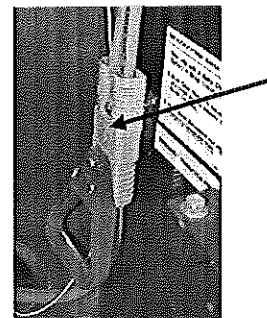

Figure 12
14. Place the black battery box back into the lift carriage and tighten the strap. Re-connect the battery cable. See Figure 12.